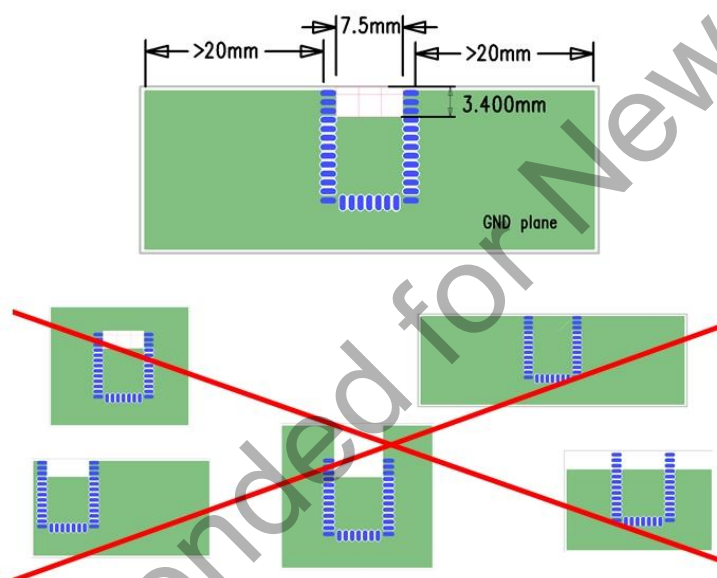

Figure 2 PCB layout recommendations for BT121 application boards
- The antenna layout should follow the example shown in Figure 2 below and avoid the designs shown as crossed over.
- BT121 requires minimal free space around the module and only the white area marked in the PCB picture series presented in Figure 2 below needs to be free of copper and components.